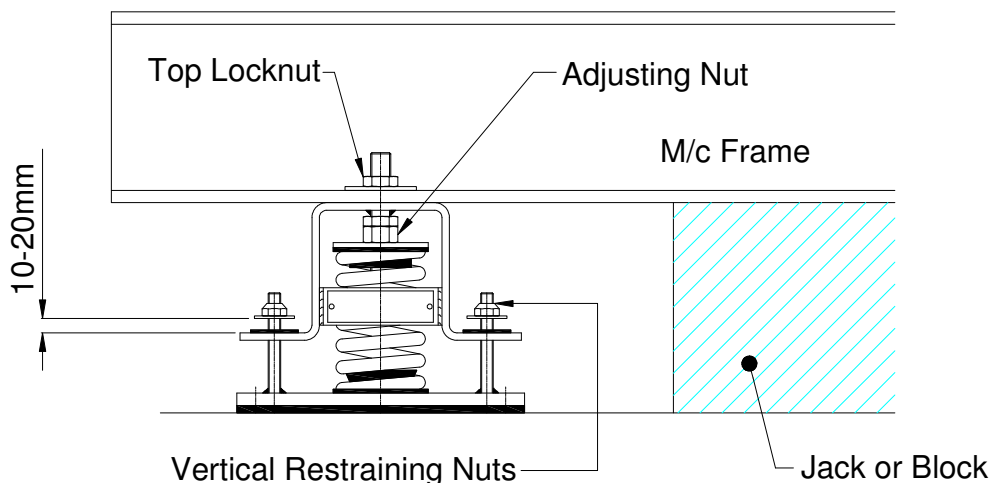

Figure 1.
5. Isolator height should now be adjusted until contact with machine under base is made. To do this it will be necessary to release the vertical restraining nuts on isolators and set them at an approximate clearance height of 10-20 mm. See Figure 1.